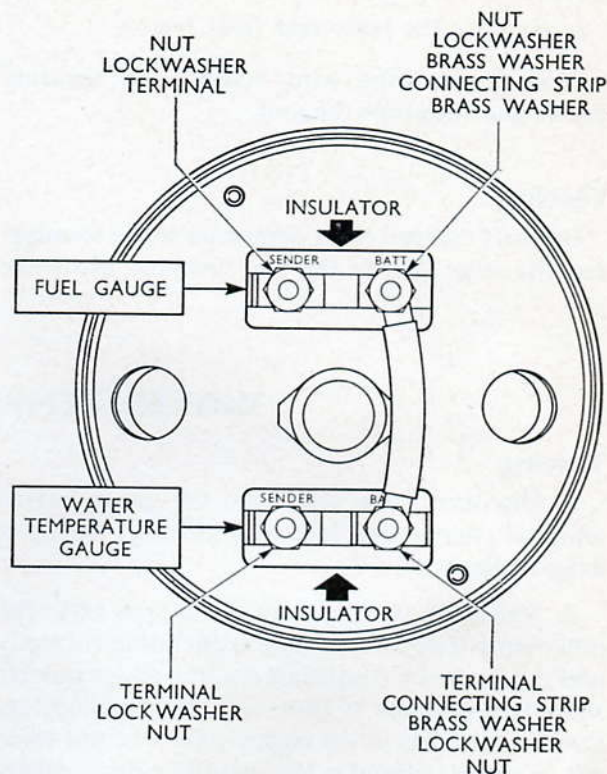

Fig. T.9. Rear view of combined instrument assembly, showing assembly sequence of gauge attaching parts
2. Assemble the gauge attaching parts in the order shown in Fig. T.9. The connecting strip couples the 'BATT' terminals on the gauges.